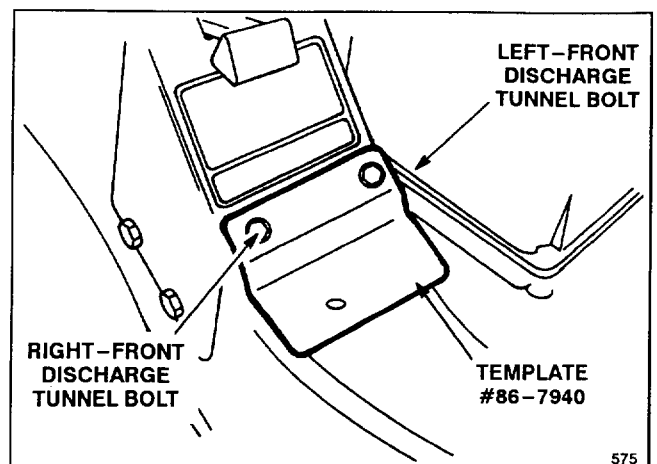

Figure 10
5. Position template #86-7940 over the right-front and left-front discharge tunnel bolts as shown in Figure 10. Mark hole with metal punch and remove template.